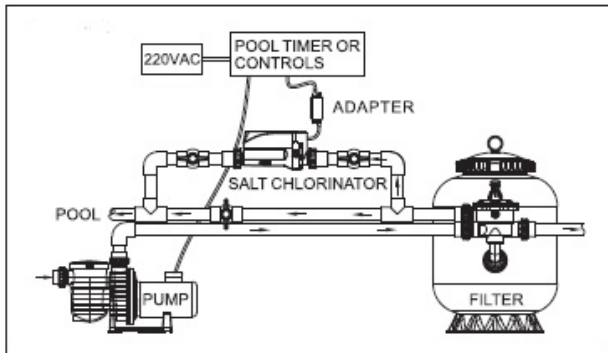

Figure 1
(1) Before use, please ensure that the pipe diameter to be installation is the same size as the salt chlorinator's. The nominal diameter of the connection pipe of the chlorinator is 1.5" (metric: Ø50mm, imperial: 1.5"/Ø48mm)
(2) Before use, please ensure that the valve of the pipe connecting to the salt chlorinator is turned off.
(3) Before installation, please clean any clutter or oil off of the pipes and the connection joint.
(4) The salt chlorinator should be installed on the bypass of the return pipe to the pool of the water treatment. The regulating valve needs to be installed on the main pipe. (Figure 1 or 2)
(5) Before installing the salt chlorinator, please ensure that the water flow direction is consistent with the direction the salt chlorinator indicator.
(6) When connecting salt chlorinator pipes, please use PVC special glue.
(7) The power input of the salt chlorinator needs to be installed on a power supply with leakage switch protection (AC110-220V/50-60Hz), which is the same power supply as the water pump.
(8) The chlorinator should be installed in a well-ventilated area, to help the chlorinator to cool down. Do not install in a place where water is easy to accumulate, to prevent electronic components from being damaged